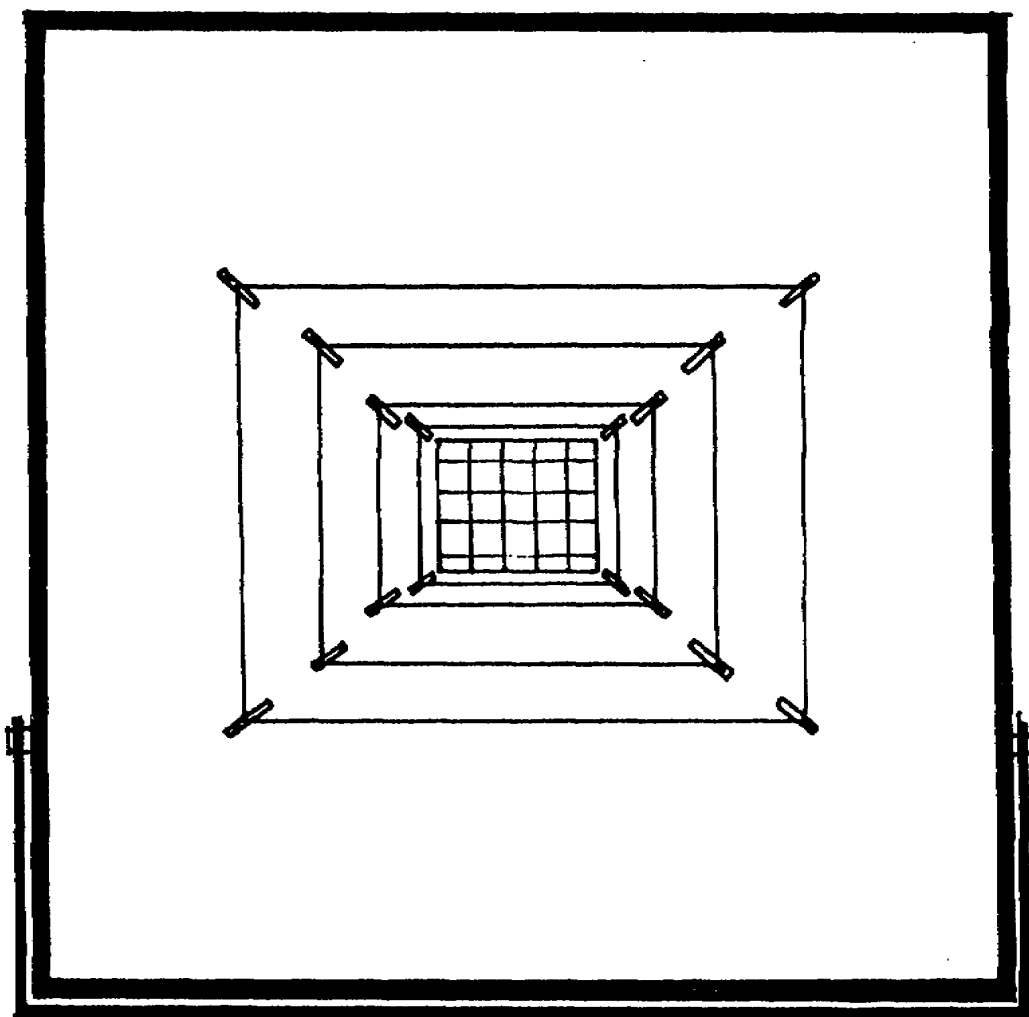

FIGURE 11. Easel, with the five standard masks in place.
(1) Select the mask that matches the size of the copy. Mask sizes available (figure 11) are 3 1/4" x 4", 4" x 5", 5" x 7", 8" x 10", and 11" x 14".